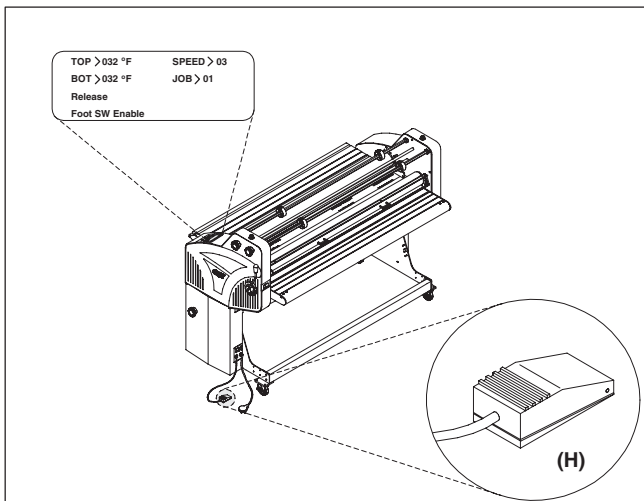

Fig 12
H. FOOT SW ENABLE: (Figure 12) In this mode permits operation using the footswitch. Refer to Item **V. FOOTSWITCH** for operation.